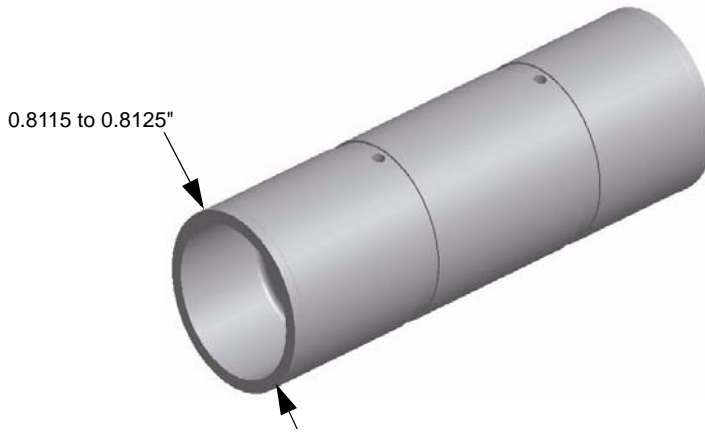

Figure 5-18: Liquid Displacer Measurements
1. Clean the Liquid Displacers (Figure 5-18) and use the micrometer to measure the outside diameters of each Displacer end.